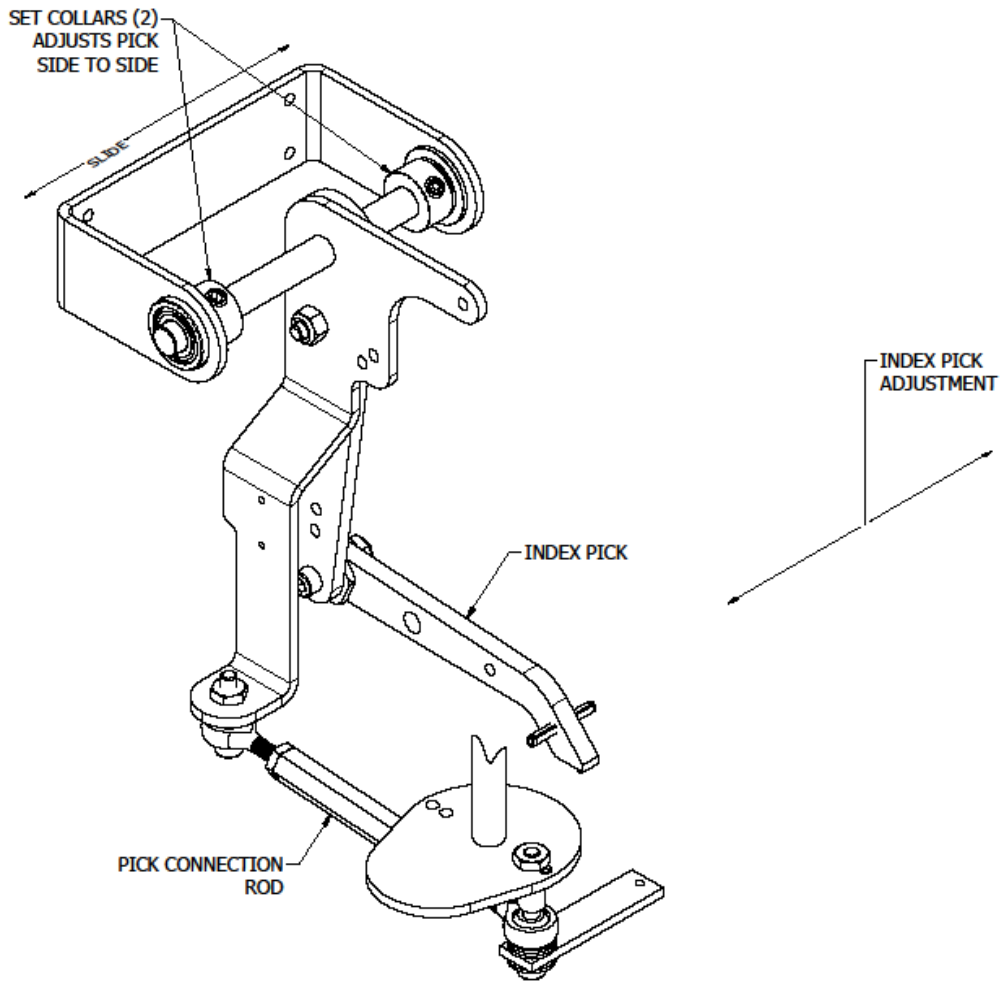
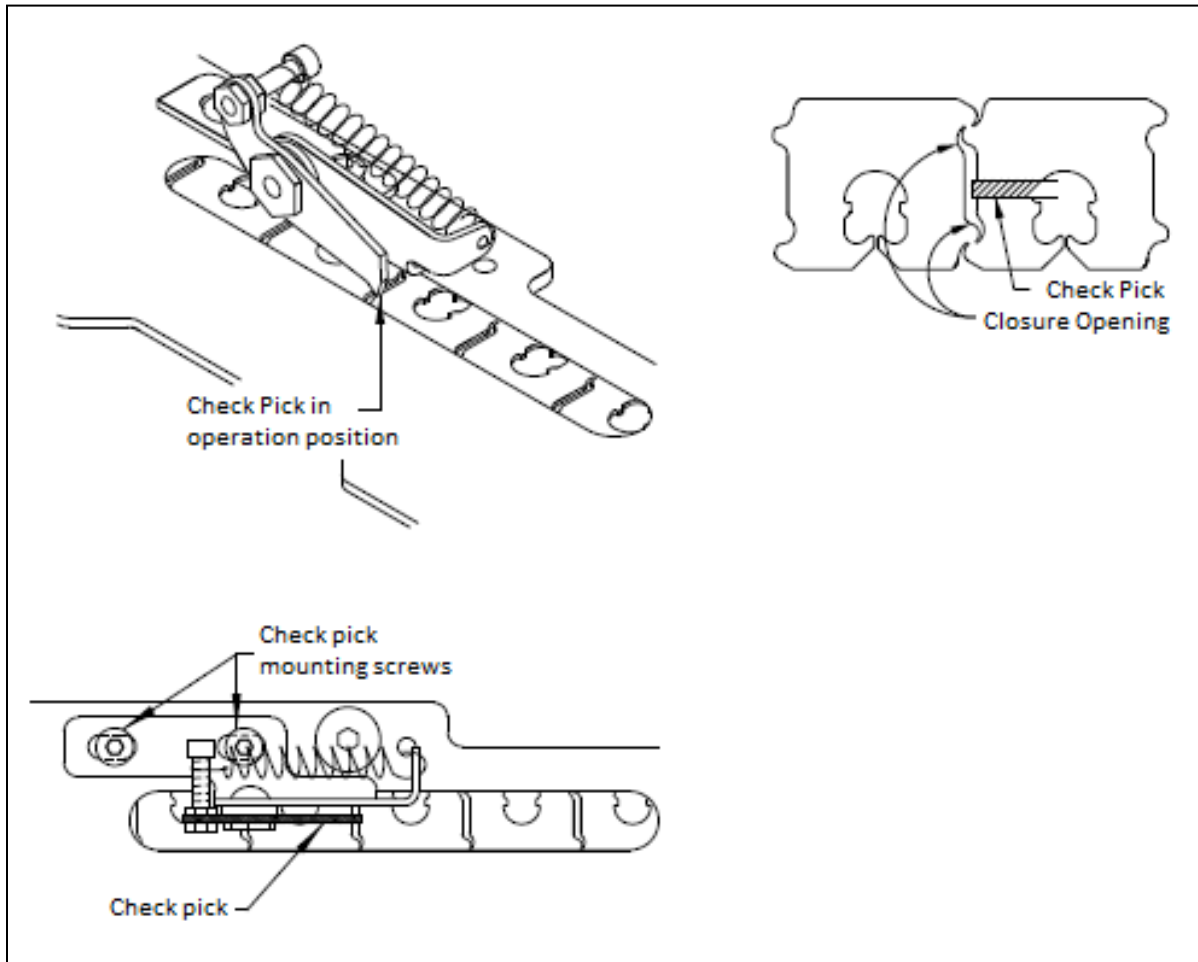

Figure 5.4
Figure 5.5
4. Loosen the pick stop mounting screws and slide the pick stop away from the index pick. *Figure 5.4.*
1. Loosen the set collars. (Figure 5.4)
2. Slide the pick shaft assembly accordingly. (Figure 5.4 & Figure 5.5)
in the desired location. The point of the check pick should be slightly back from the middle of the slot in-between clips. (Figure 5.5)